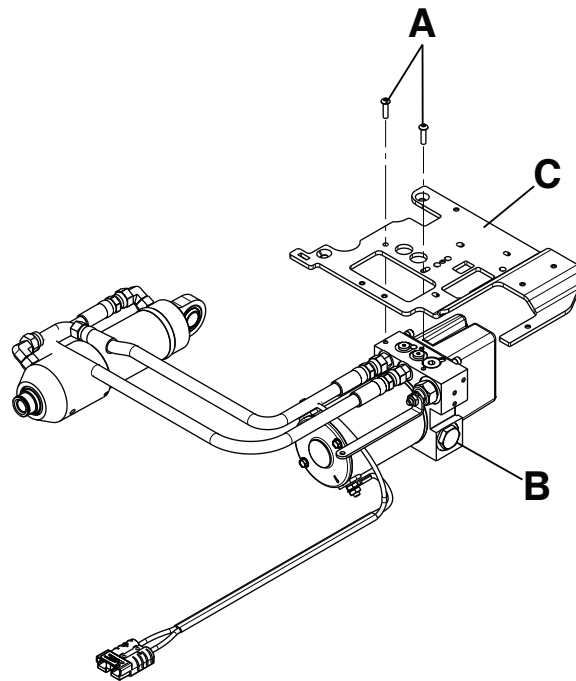

Figure 21 – Hydraulics assembly
6. Using a T25 Torx driver, remove the two screws (A) that secure the hydraulics assembly (B) to the wing plate, left (C) (Figure 21). Save the screws.